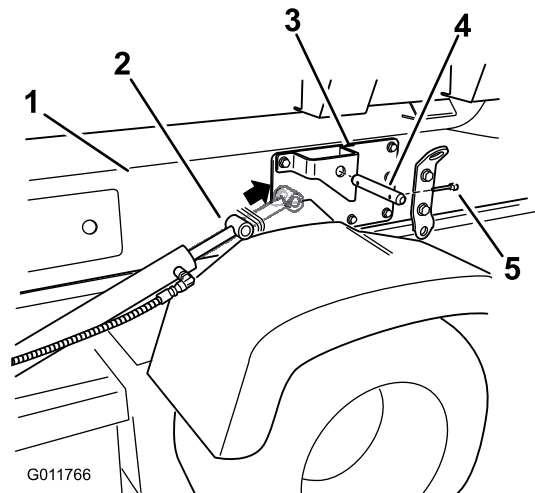

Figure 4
2. Extend the lift cylinders to the brackets on the tank skid. Align the cylinder arms with the holes in the tank skid brackets (Figure 4).
3. Use the clevis pin and lynch pin to secure the tank skid to the lift cylinders on both sides of the vehicle (Figure 4).